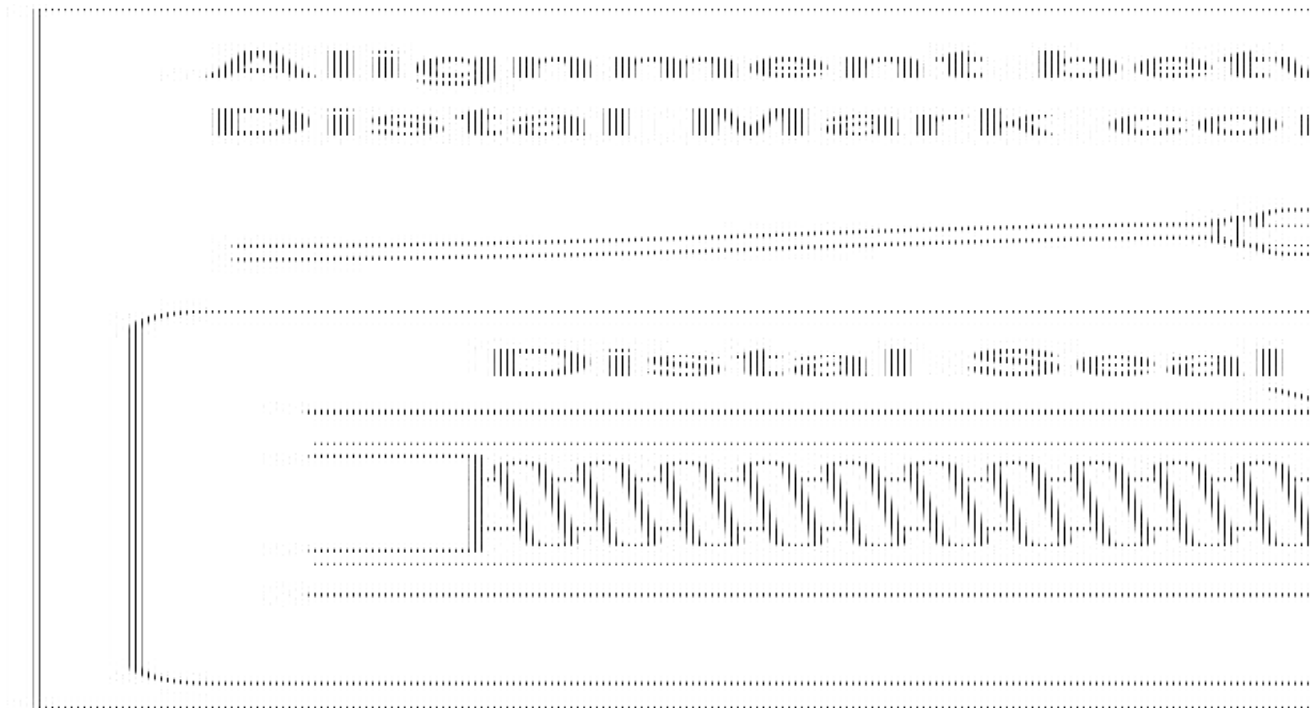

Figure 5: Alignment between Distal Seal and Distal Mark
orange piston is aligned with the distal black mark of the Inflation Syringe (See Figure 5). If the seal and black mark do not align, disconnect the Inflation Syringe and Extension Line and repeat the prepping process.
- Slowly depress the Inflation Syringe plunger rod to inflate the balloon. The pressure should be increased slowly (3-5 seconds) until the orange piston bottoms out (distal black seal of the piston reaches the distal black mark on the Inflation Syringe – see Figure 5). If these do not align, deflate the balloon and remove the XprESS device and perform a test inflation (as described in steps 2.d and 2.e of the System Preparation section). Alignment of the distal mark and distal seal will ensure that 12 atm of pressure is reached. **Note:** Do not use air or any gaseous medium to inflate the balloon.